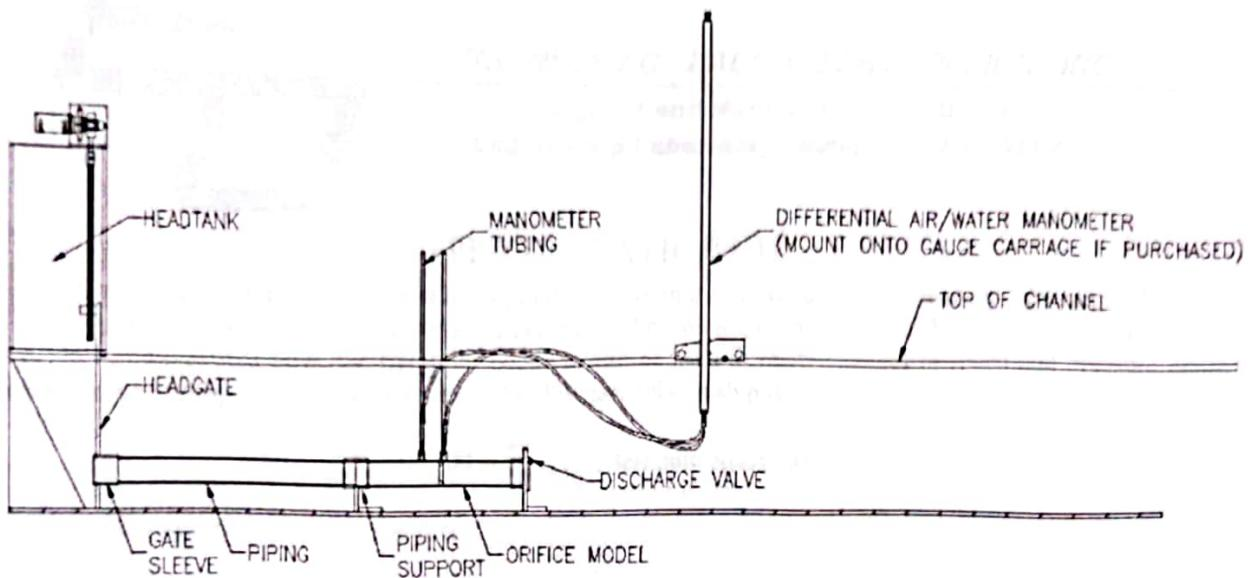

Figure 2 Installation
1. Initial settings (Fig. 2):
2. Install pipe segment, pipe support, orifice meter and discharge valve into headgate sleeve and onto channel floor. Secure discharge valve with two (2) #10-24UNC-2A x 0.625" long Round Head Machine Screws (RHMS) at the flange. Engage all o-rings at pipe connections. Open the discharge valve fully.